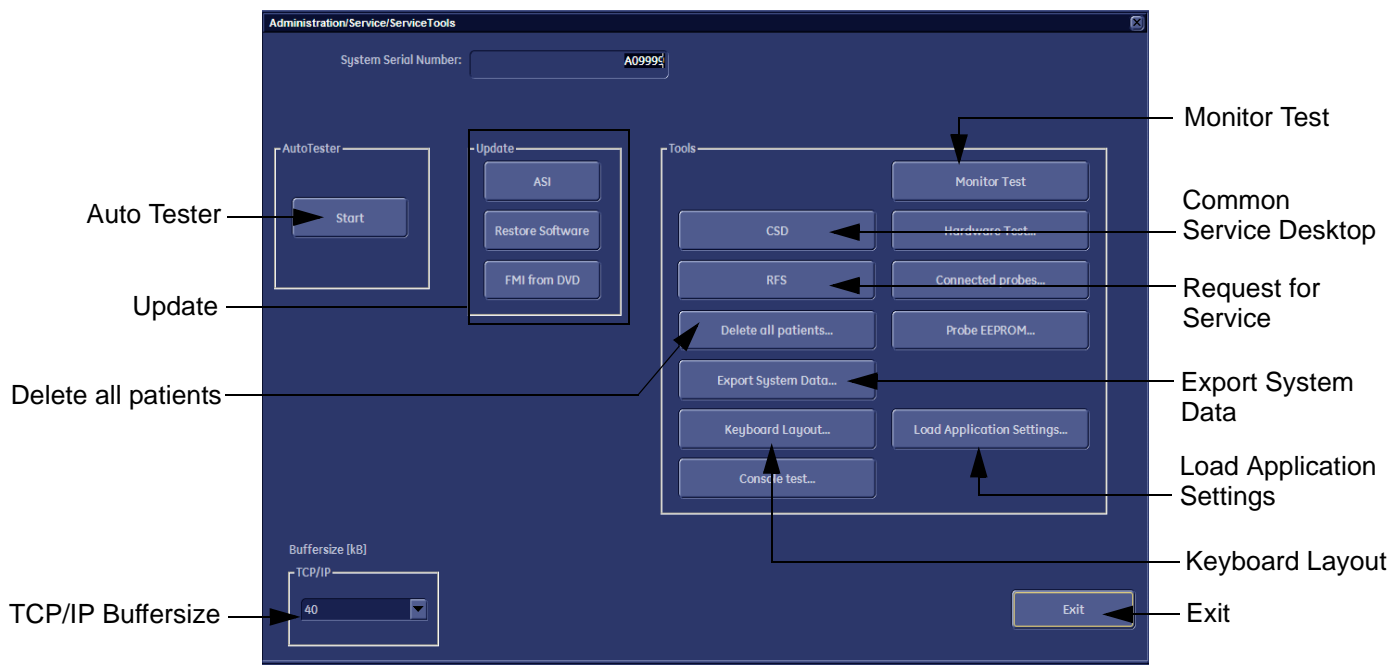

Figure 5-33 Service Tools window
- 1.) Select the LOAD APPLICATION SETTINGS button on the "Service Tools" page (Figure 5-33 on page 5-52).